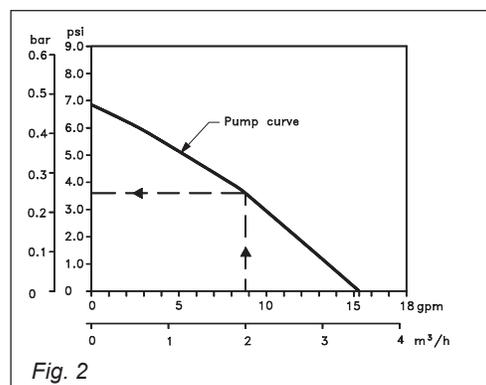

Fig. 2
- Pump characteristic, see fig. 2.